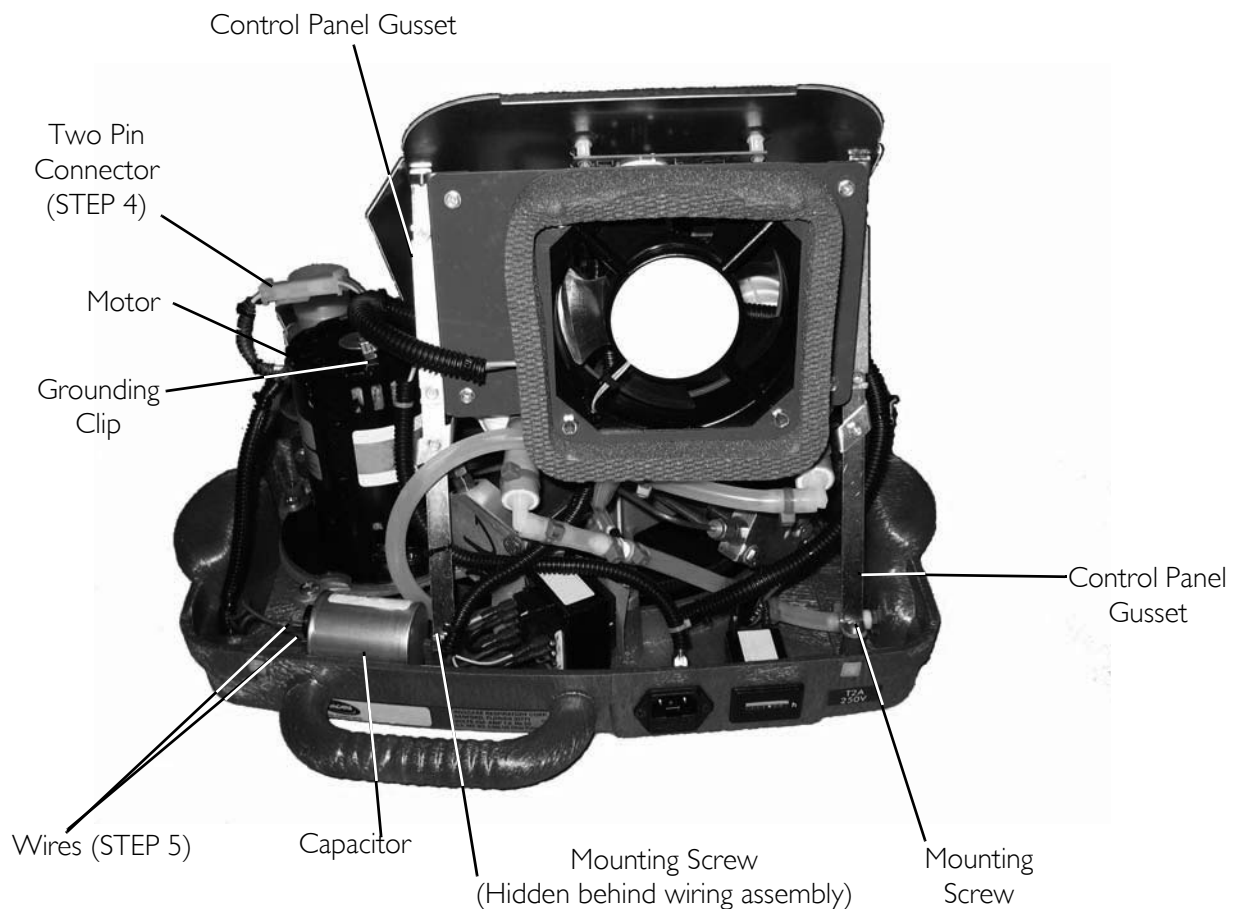
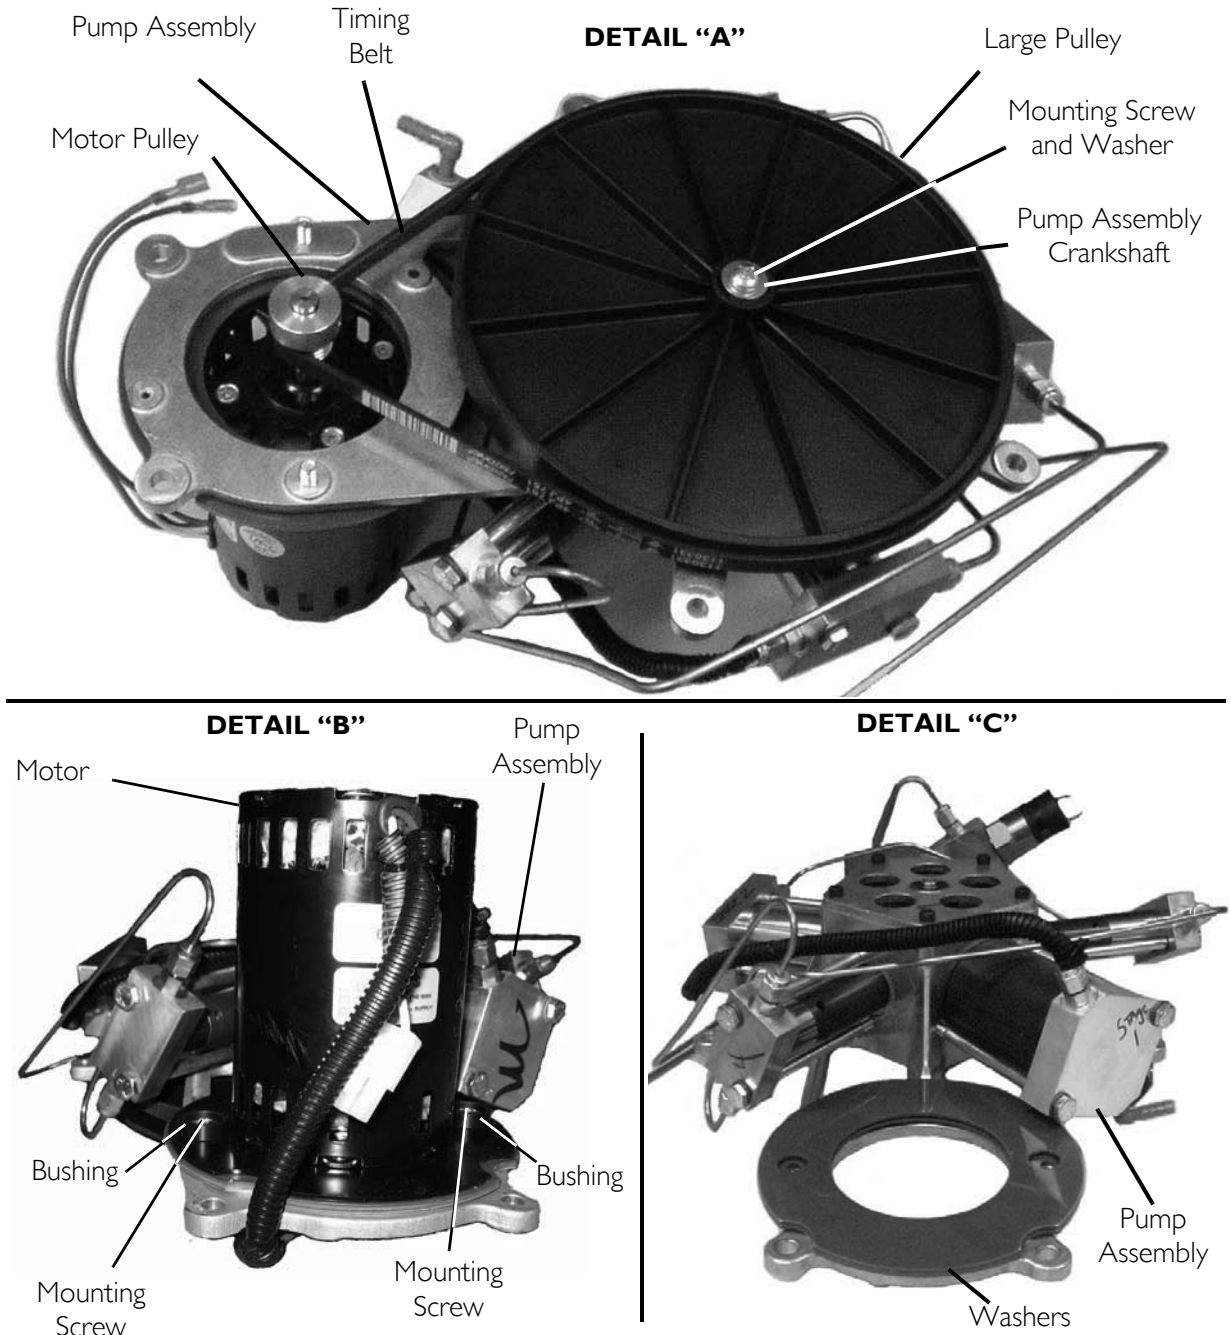

FIGURE 10.7 Compressor Replacement - HomeFill Units Manufactured After 8/1/05
FIGURE 10.12 Compressor Replacement - HomeFill Units Manufactured After 8/1/05
NOTE: For this procedure, refer to FIGURE 10.7 through FIGURE 10.12.
5. Disconnect the two pin connector that connects the motor to the wiring harness (FIGURE 10.7).
6. Using needle nose pliers, disconnect the two wires from the capacitor (FIGURE 10.7).
7. Using needle nose pliers, disconnect the grounding clip from the motor (FIGURE 10.7).
11. Remove the two screws that secure the control panel gussets to the rear of the base assembly (FIGURE 10.7).
26. Remove the timing belt by gently pulling the belt away from the large pulley and motor pulley. Refer to Detail "A" in FIGURE 10.12.
28. Remove the two mounting screws, two bushings, and two washers that secure the motor to the pump assembly. Refer to Detail "B" and "C" in FIGURE 10.12.
30. Remove the mounting screw and washer (Detail "A") that secure the large pulley to the pump assembly crankshaft. Refer to FIGURE 10.12 on page 73.
1. Position the washers on the new pump assembly. Refer to Detail "C" in FIGURE 10.12.
2. Position the motor on the new pump assembly. Refer to Detail "B" in FIGURE 10.12.
3. Press the large pulley onto the new pump assembly crankshaft. Refer to Detail "A" FIGURE 10.12 on page 73.
4. Secure the large pulley to the pump assembly shaft with a mounting screw and washer. Torque to 25-30 in-lbs (2.82-3.39 Nm). Refer to Detail "A" in FIGURE 10.12 on page 73.
5. Secure the two washers and motor to the pump assembly with two mounting screws and two bushings. Torque mounting screws to 60-70 in-lbs (6.78-7.9 Nm). Refer to Detail "B" and "C" in FIGURE 10.12.
6. Install the timing belt over the large pulley and the small motor pulley. Refer to Detail "A" in FIGURE 10.12.
19. Secure the control panel gussets to the rear of the base assembly with two mounting screws (FIGURE 10.7).
23. Connect the grounding clip to the motor (FIGURE 10.7)
24. Connect the two wires to the capacitor (FIGURE 10.7)
25. Connect the two pin connector that connects the motor to the wiring harness (FIGURE 10.7).